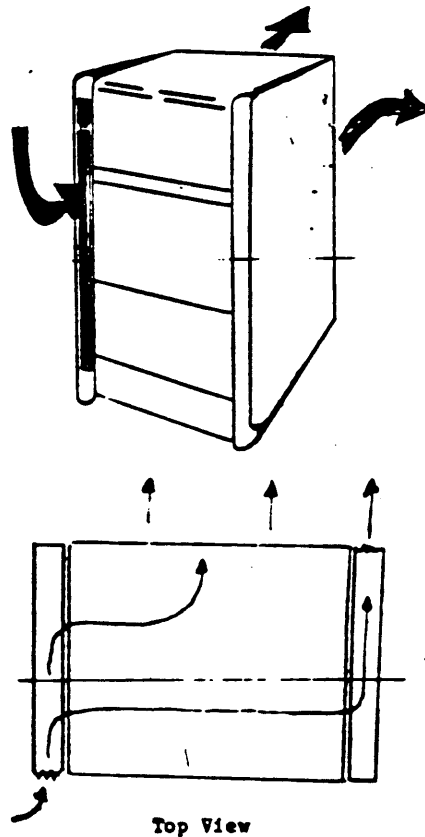

Figure 2-14 Proper air flow for H9642-based systems.
- o Allow space around the unit for air circulation and servicing. Figure 2-14 shows proper air flow for the H9642 system.